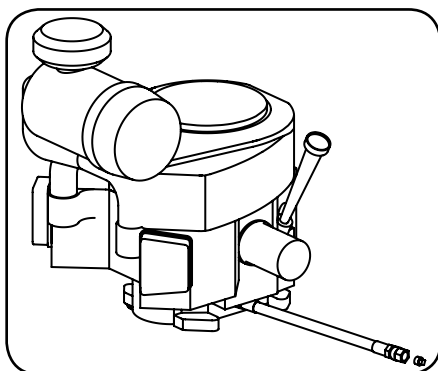

Figure 4-1
2. Locate the oil drain hose on the engine. See Figure 4-1.
5. While holding the free end of the oil drain hose over the oil collection container, unscrew the square-head hose plug from the end of the hose. See Figure 4-1. Drain the engine oil into the collection container.